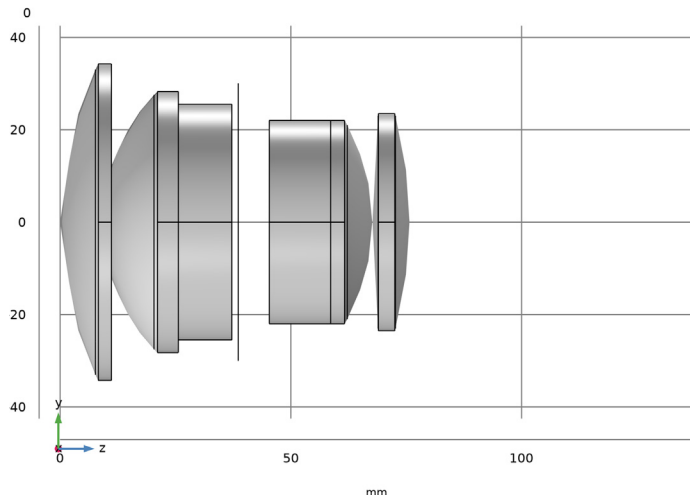
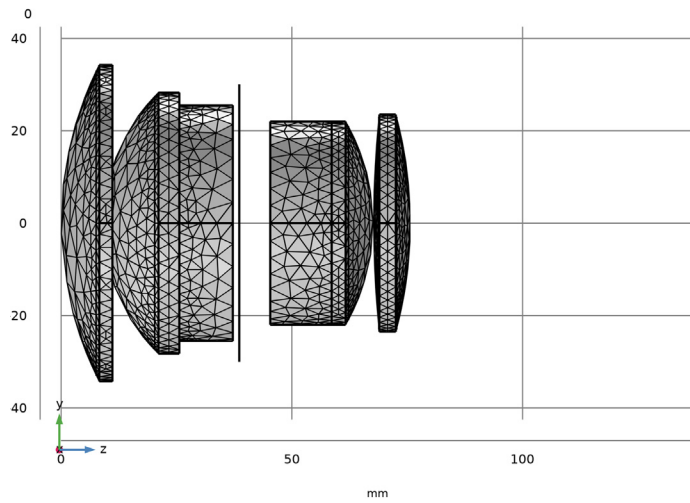

Figure 2: The double Gauss lens geometry sequence.
Figure 3: The default Physics-controlled mesh for the double Gauss lens.
is simplified by making use of the predefined work planes within the part instances. It is important to appreciate that the ray tracing method used by the Geometrical Optics interface is inherently nonsequential, so the same result could be obtained by placing part instances within the geometry in any order. The double Gauss lens geometry sequence is shown in Figure 2 and the default, Physics-controlled mesh, is seen in Figure 3.
- 7 In the **Graphics** window toolbar, click  next to  **Go to Default View**, then choose **Go to ZY View**. Orient the view to place the  $z$ -axis (optical axis) horizontal and the  $y$ -axis vertical. Compare the resulting geometry to Figure 2.